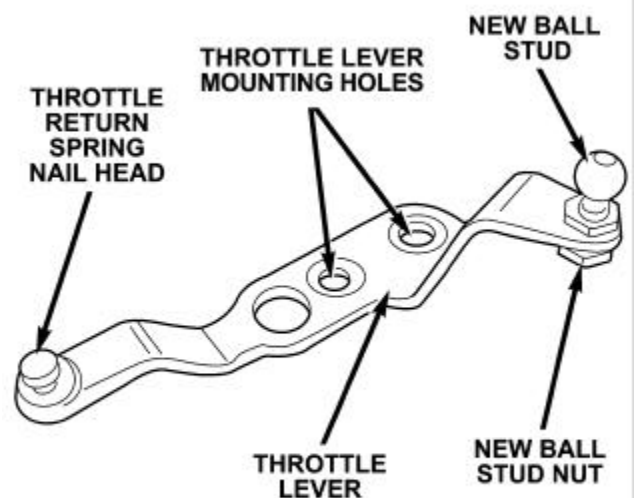

Figure 9 – 1994 1/2 Through Early 1996 Non-adjustable Throttle Lever Shown
30. Install a new ball stud onto the throttle lever as shown in Figure 9. Tighten the new ball stud nut to 80 in. lbs. (9 N·m).